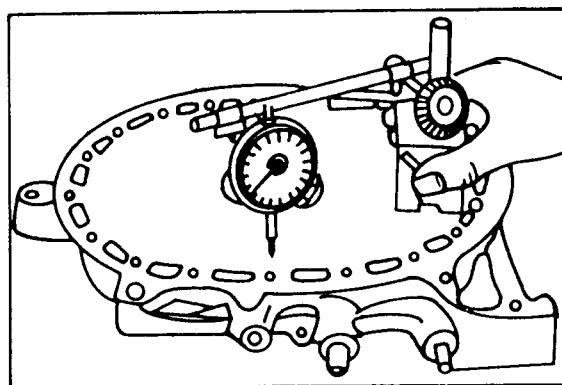

Figure 2
- (2) Stepped wear from side seal.
- a) To check the side seal wear, use a dial indicator with a sharp tip and a suitable dial indicator stand, and check as shown in Figure 2.